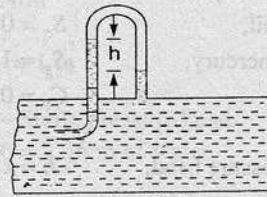

Fig. 6.15
2. Pitot-tube connected with piezometer tube as shown in Fig. 6.15.